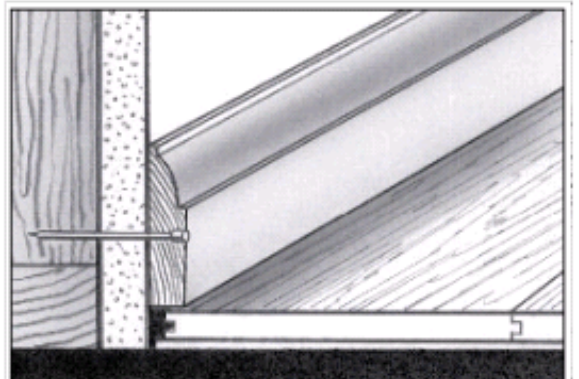

Fig. 19
23. Always predrill transitions or moldings prior to nailing. To allow the floating floor to move freely, **do not** fasten the trim to the laminate flooring (Fig. 19).